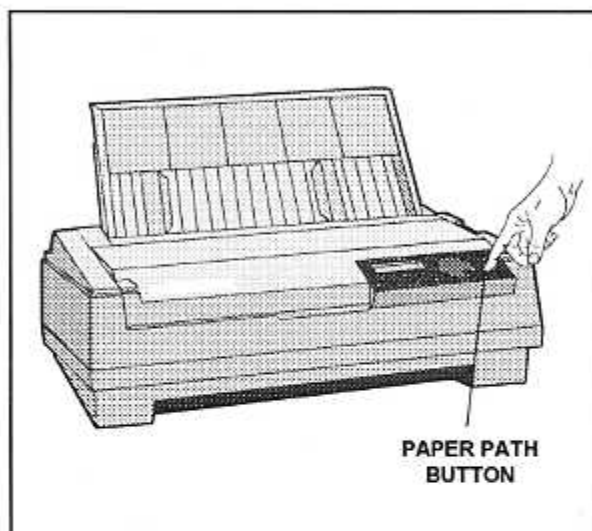

Figure 3-1. Selecting a Paper Path on 635 and 635d Models
- ✓ **On 635 and 635d models:** Press the Paper path button on the control panel (see figure 3-1) as necessary to cycle through the paper path selections. The paper path that appears on the control panel display indicates the active path: